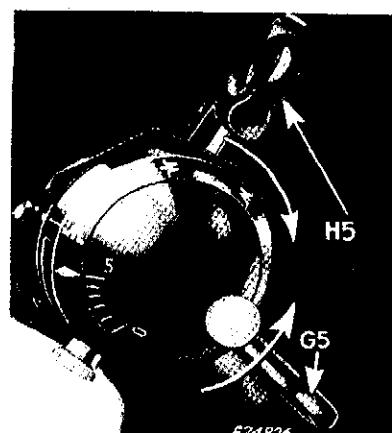

Fig. 122. Right Needle Position (Zigzag Stitching)
**SETTING:** Bight lever **G5** at #5 position and position lever **H5** over to extreme right, as shown in Fig. 122.